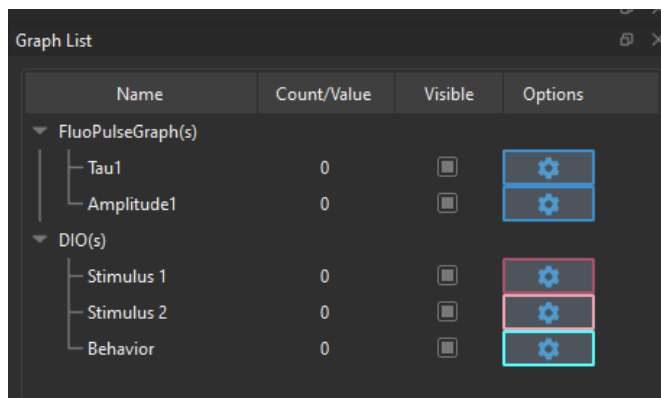

Figure 12.34: Graph List
The **Graphs List** (Fig. 12.34) always accompanies the **Graph View**. The **Graphs List** (Fig. 12.34) contains a list of all the active channels organized by types: Lifetime-related and Digital signals.
Double-click on the channel name (e.g. “Tau1”, “Amplitude1”, “Dio1”) to change the name of the signal. All the DIO signals in Fig. 12.34 (“Stimulus 1”, “Stimulus 2” and “Behavior”) were renamed in this manner.)
1. The **Name** column (Fig. 12.34) displays the **User Name** of the channel. To change the **Name** of a channel, double-click on it.
2. The **Count/Value** column (Fig. 12.34) displays the most recent channel value. This value can be to check if the signal is near or reached saturation.
3. The **Visible** checkbox (Fig. 12.34), when enabled, includes the selected graph(s) in the **Graph View**, while disabling the checkbox hides the graph(s).
4. The **Options** column (Fig. 12.34) contains buttons to edit the channel parameters that were previously selected.